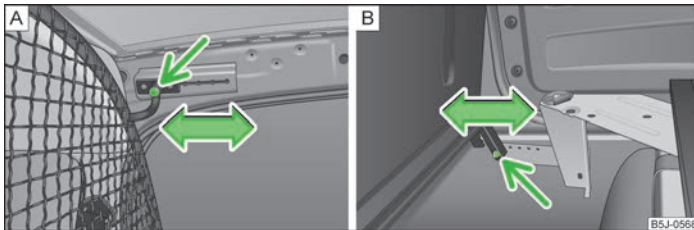

Fig. 157 Top/lower support of the safety partition
- On each side in the upper area of the body, undo and remove a bolt » Fig. 157 - [A] and undo and remove a bolt in the lower area » Fig. 157 - [B].